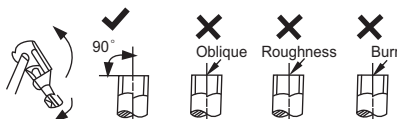

Fig. 5 – Cut the Pipe
2. Cut the pipe, with a pipe cutter, at 90 degrees (see Fig. 5).